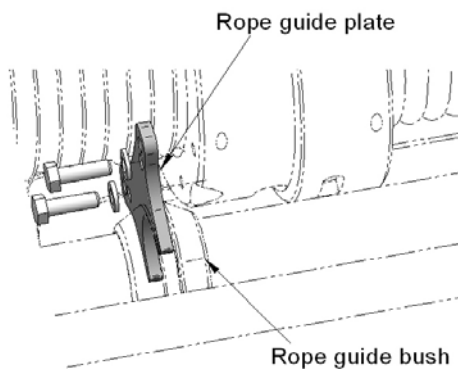

Figure 71 – Fitting Rope Guide Plate – Standard Environments
- FOR STANDARD ENVIRONMENT ROPE GUIDES :- Fit the rope guide plate into the slot on the rope guide bush and attach the guide plate to the side of the rope guide. Tighten the screws to 8Nm (see Figure 71).